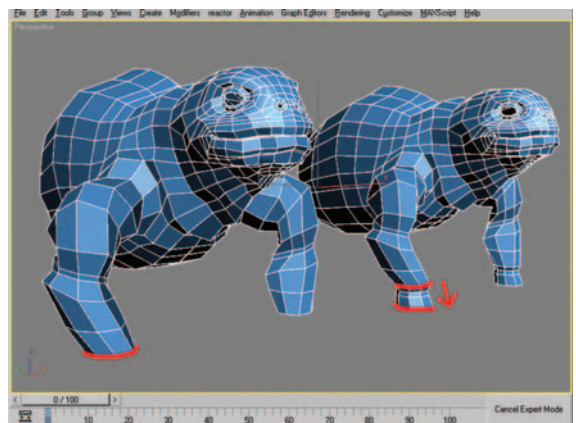

Figure 9.50 Border selection before and after shift-dragging ($\times 3$).
11. Shift-drag the border selection an additional three times to create the shape seen in Figure 9.50.